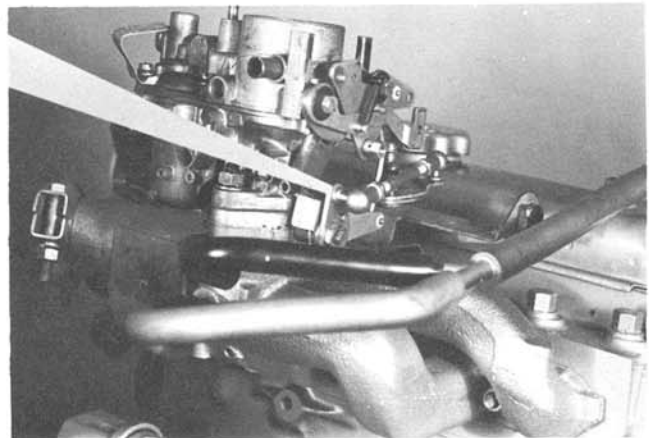

FIGURE 66. CARBURETOR CONTROL LINKAGE
2. Disconnect fuel line and governor control linkage (Figure 66).